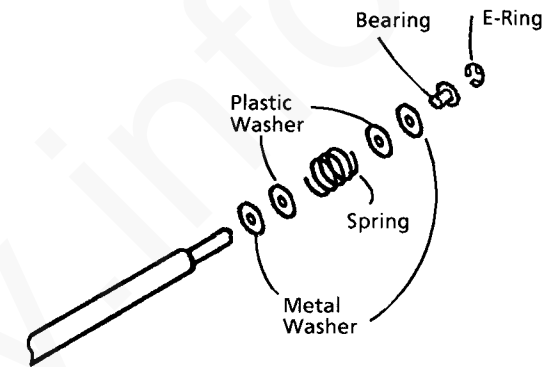

Figure 2. Installing the Components on the SDF Registration Roll
3. Install the washers (4) with the spring that were removed in step 12 (Figure 2).